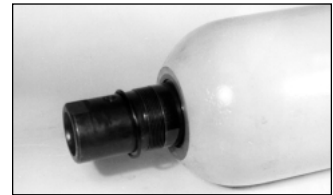

FIGURE 13
- Figure 13.** Install metal backup washer over poppet assembly and push into the shell fluid port to bottom it out on anti-extrusion ring.